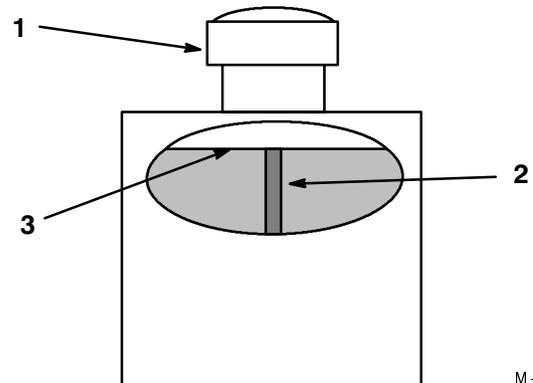

Figure 9
- Clean area around filler neck of hydraulic tank (Fig. 9).
- Remove cap from filler neck. Look inside to check if there is fluid in the reservoir. (Fig. 9).
Note: Fluid level should be to the top of the baffle when fluid is warm (Fig. 9).